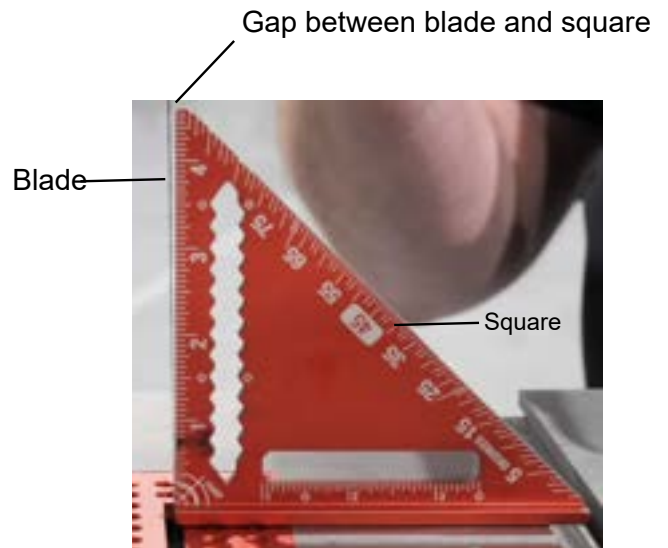

Fig. 39
2. Place a square to the blade and check if the blade is 90° to the table. If there is a gap between the blade and the square as shown in Fig 39, follow the steps below.